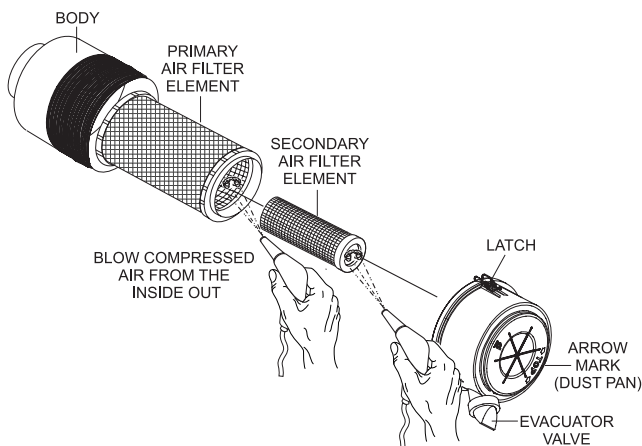

Figure 62. Engine Air Cleaner
This Isuzu diesel engine is equipped with a replaceable, high-density, paper air cleaner element (Figure 62). The air cleaner is also equipped with an inner (secondary) element that is used as a backup filter should the primary element become damaged. Check the air cleaner daily or before starting the engine. Replace the air cleaner as needed.
1. Release the latches that secure the cover to the air cleaner body (Figure 62).
2. Remove the **air cleaner cover** (Figure 62) and set it aside.
3. Remove both the primary and secondary air cleaner elements (Figure 62).
5. To clean the **primary element** (paper air filter) as shown in Figure 62, tap the filter element several times on a hard surface to remove dirt, or blow compressed air, not to exceed 30 psi (207 kPa, 2.1 kgf/cm²), through the filter element from the inside out.
8. Clean the inside of the **air cleaner body** (Figure 62).